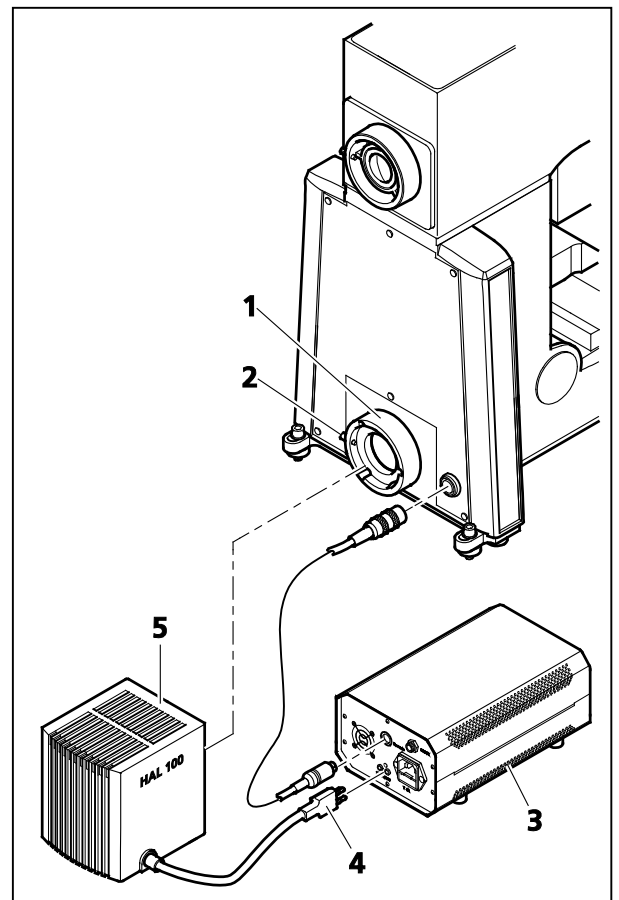

Figure 3-18 Attaching the HAL 100 halogen lamp
- Remove the transmitted-light socket cap (Figure 3-18/1).
- Insert the illuminator casing (Figure 3-18/5) with the dovetail into the socket (Figure 3-18/1), and secure it with the clamping screw (Figure 3-18/2) using a ball head-screwdriver (width A/F 3).
- Connect the three-pole illuminator plug (Figure 3-18/4) to the rear side of the external power supply unit (Figure 3-18/3).
- Connect the illumination control cable of the external power supply unit (Figure 3-18/3) to the stand.
(1) Coarse adjustment
- Loosen the clamping screw (Figure 3-18/2), and remove the ready-to-operate halogen illuminator from the microscope stand.